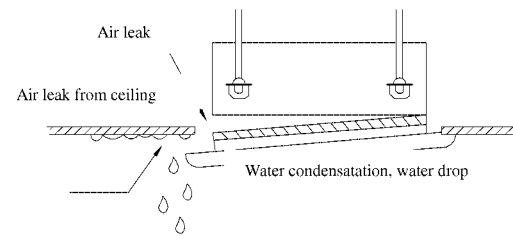

Fig.17
1. Improper screwing of the screws may cause the troubles shown in fig.17.